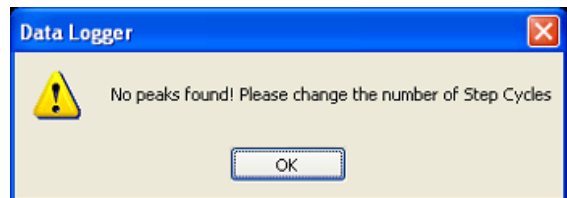

Figure 24: No Peaks Found message indicates system cannot resolve number of entered walking steps
- d. If the system cannot resolve the number of peaks that were entered a **No Peaks Found!** (Figure 24) Message appears. Click **OK** and enter a new number of walking cycles. Repeat the process as necessary until the system recognizes the number of step cycles.